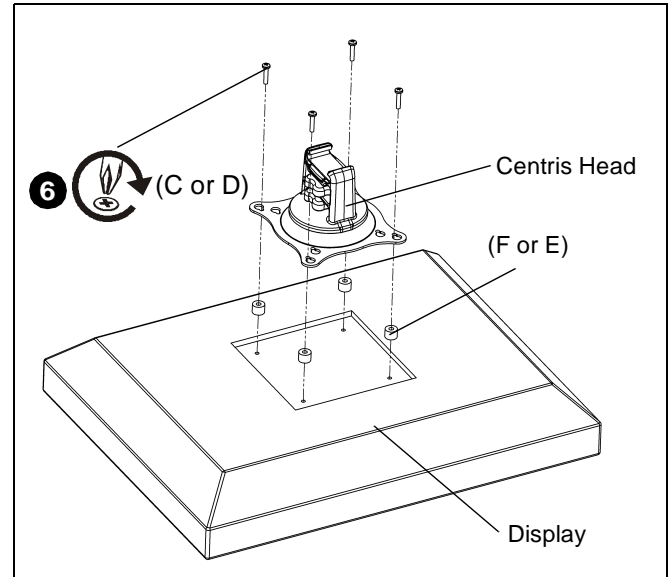

Figure 8
4. Place four 3/8" or 3/4" nylon spacers (F or E) over four mounting holes in display back (See Figure 8).
5. Align Centris head mounting holes with four nylon spacers (See Figure 8).
6. Secure Centris head to display using four M4 x 20mm Phillips pan head screws (C), or four M4 x 30mm Phillips pan head screws (D). (See Figure 8)